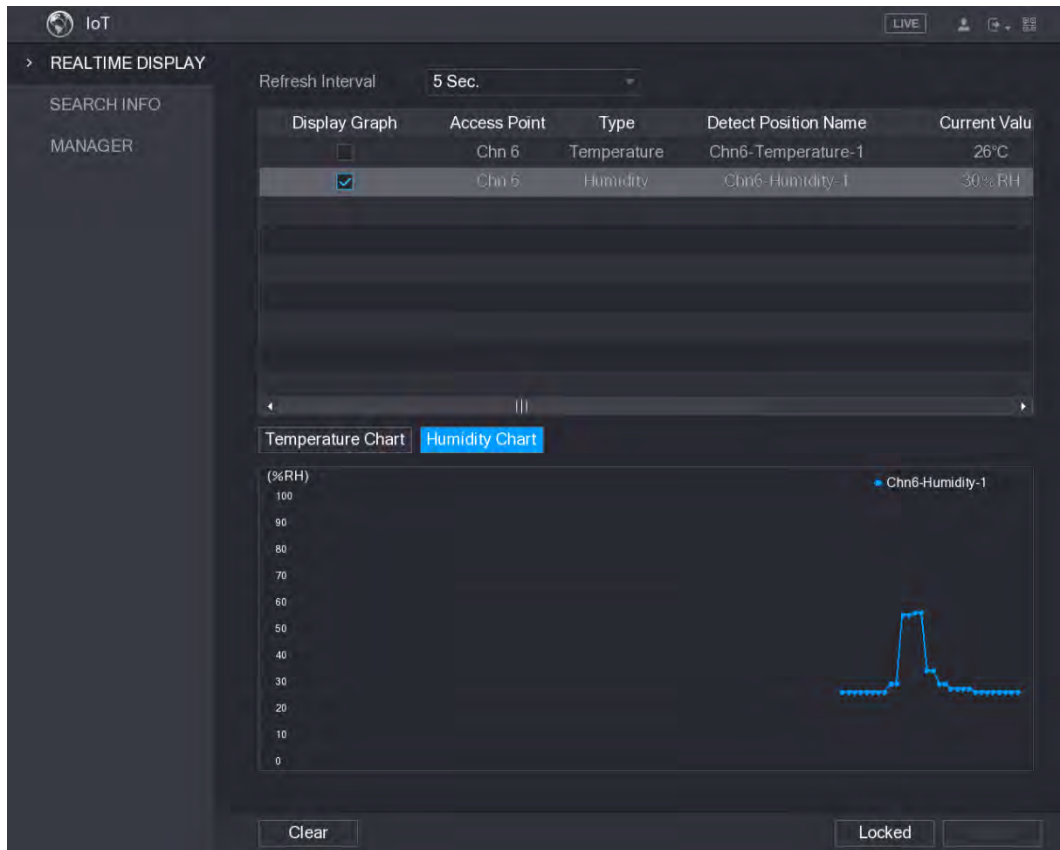

Figure 5-174
**Step 2** On the **Realtime Display** interface, click the **Humidity** tab. See Figure 5-174.